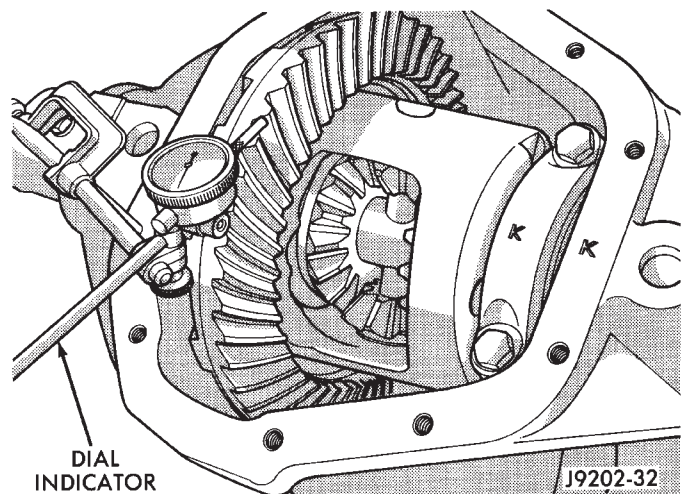
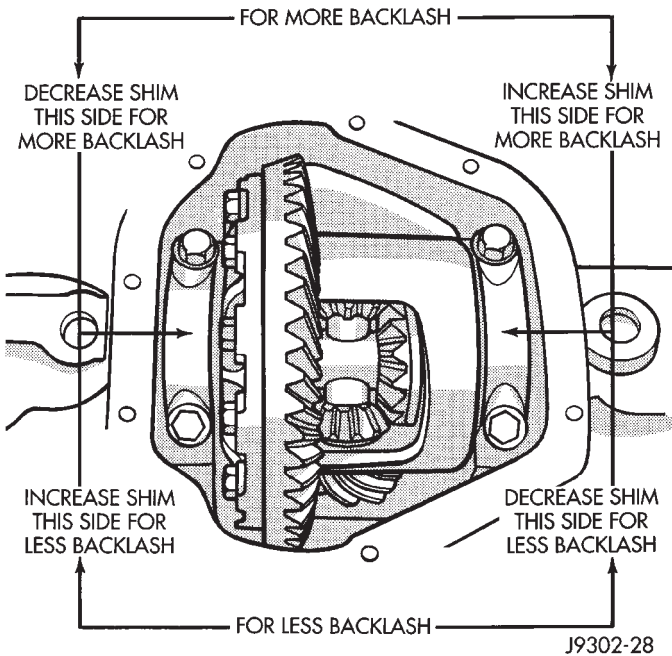

Fig. 70 Ring Gear Backlash Measurement
Fig. 71 Backlash Shim Adjustment
(26) Subtract the backlash shim thickness from the total preload shim thickness. The remainder is the shim thickness required on the pinion side of the axle housing.
(27) Rotate dial indicator out of the way on guide stud.
(28) Remove differential case and dummy bearings from axle housing.
(29) Install side bearing shims on differential case hubs.
(30) Install side bearings and cups on differential case.
(31) Install spreader W-129-B, utilizing some items from Adapter Set 6987, on axle housing and spread axle opening enough to receive differential case.
(32) Install differential case in axle housing.
(33) Remove spreader from axle housing.
(34) Rotate the differential case several times to seat the side bearings.
(35) Position the indicator plunger against a ring gear tooth (Fig. 70).
(36) Push and hold ring gear upward while not allowing the pinion gear to rotate.
(37) Zero dial indicator face to pointer.
(38) Push and hold ring gear downward while not allowing the pinion gear to rotate. Dial indicator reading should be between 0.12 mm (0.005 in.) and 0.20 mm (0.008 in.). If backlash is not within specifications transfer the necessary amount of shim thickness from one side of the axle housing to the other (Fig. 71).
(39) Verify differential case and ring gear runout by measuring ring to pinion gear backlash at several locations around the ring gear. Readings should not vary more than 0.05 mm (0.002 in.). If readings vary more than specified, the ring gear or the differential case is defective.